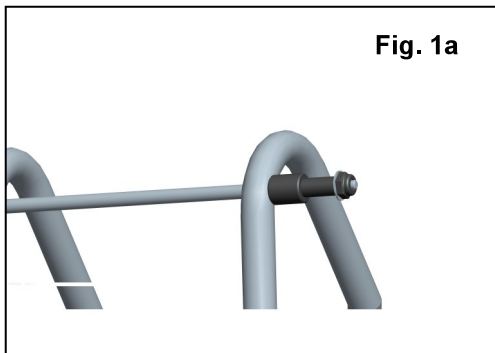

Fig. 1a
2. Assemble the wheel axle to the stand assembly; put the spacer onto the axle; insert the wheels on the axle, then attach washer and lock nut to the axle with the supplied wrench to secure. (See Fig. 1a, 1b).